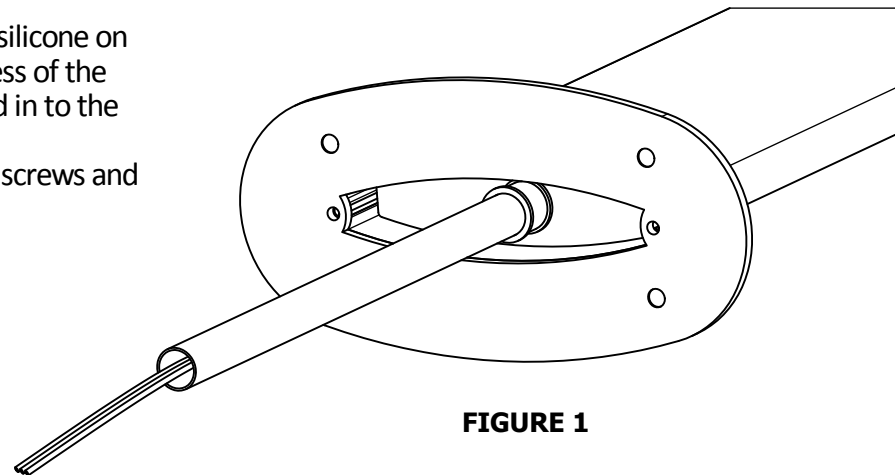

FIGURE 1
1) Use provided template to drill (4) holes for concrete anchors (user supplied) and a center clearance hole for 3/4" conduit. (Concrete anchors shall be for provided 3/8" UNC screws, refer to anchor manufacturer's instructions for hole size and depth). Install the anchors.
2) Attach conduit assembly (user supplied) to the base of the unit (follow manufacturer instructions if available, or hand tight plus quarter turn) (**Figure 1**)